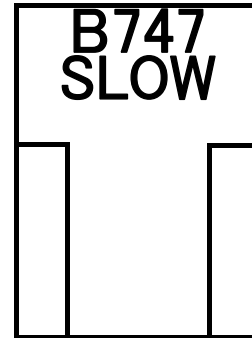

Fig.16
- (2) Bad weather condition, during heavy fog, rain or snow, the visibility for the docking system can be reduced. When the system is activated and in capture mode, the display screen will deactivate the floating arrows and indicate "Aircraft type" and "SLOW". (Fig.16)